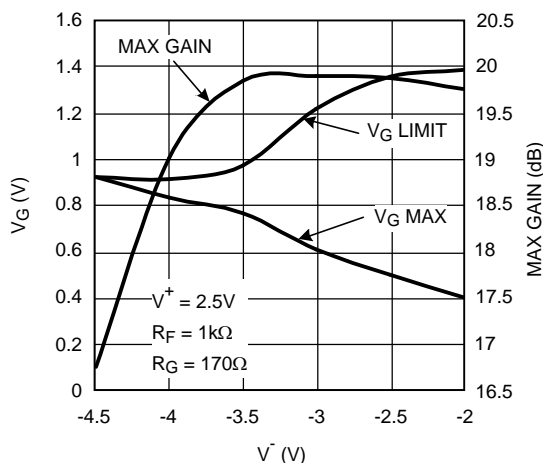
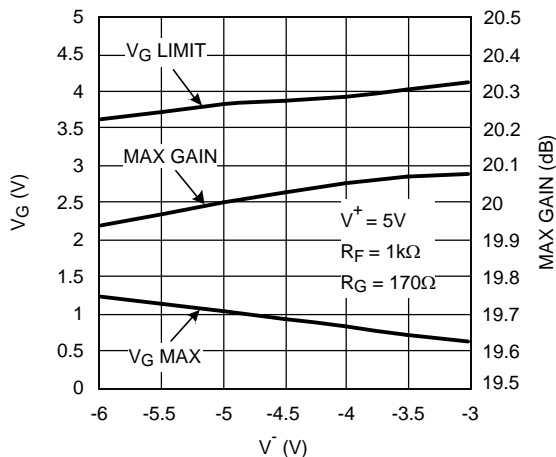

Figure 67. V_{G_MAX} , V_{G_LIMIT} , & Max-gain vs. V^- ($V^+ = 2.5V$)
Figure 68. V_{G_MAX} , V_{G_LIMIT} , & Max-gain vs. V^- ($V^+ = 5V$)
- a) V_G range constricts. Referring to Figure 67, note that V_{G_MAX} (V_G voltage required to get maximum gain) is 0.5V ($V_S = \pm 2.5\text{V}$) compared to 1.0V for $V_S = \pm 5\text{V}$. At the same time, gain cut-off (V_{G_MIN}) would shift to -0.5V from -1V with $V_S = \pm 5\text{V}$.
- b) V_{G_LIMIT} (maximum permissible voltage on V_G) is reduced. This is due to limitations within the device arising from transistor headroom. Beyond this limit, device performance will be affected (non-destructive). Referring to Figure 67, note that with $V^+ = 2.5V$, and $V^- = -4V$, V_{G_LIMIT} is approaching V_{G_MAX} and already "Max gain" is reduced by 1dB. This means that operating under these conditions has reduced the maximum permissible voltage on V_G to a level below what is needed to get Max gain. If supply voltages are asymmetrical, reference Figure 67 and Figure 68 plots to make sure the region of operation is not overly restricted by the "pinching" of V_{G_LIMIT} , and V_{G_MAX} curves.
- c) "Max_gain" reduces. There is an intrinsic reduction in max gain when the total supply voltage is reduced (see Figure 43). In addition, there is the more drastic mechanism described in "b" above and shown in Figure 67.
Similar plots for $V^+ = 5V$ operation are shown in Figure 68 for comparison and reference.